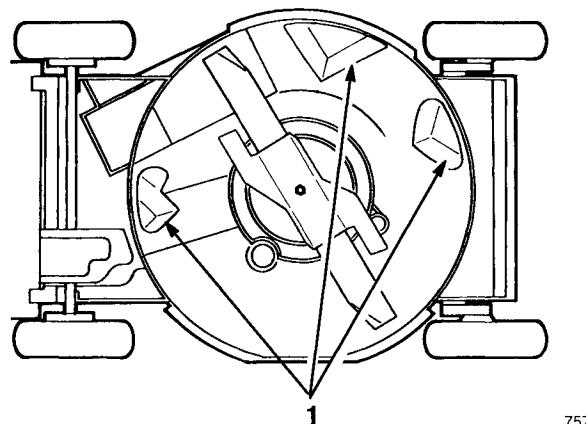

Figure 38
To ensure best performance, keep underside of mower housing clean. Be especially careful to keep kickers free of debris (Fig. 38).
3. Tip mower on its left side (Fig. 38).